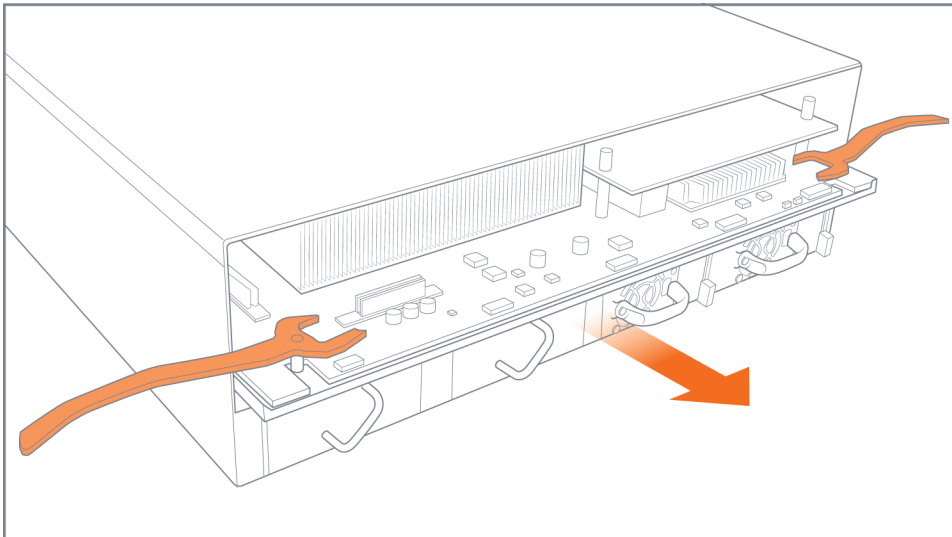

Figure 19: Control Card Removal
5. Pull out the control card. Refer to Figure 19: Control Card Removal.